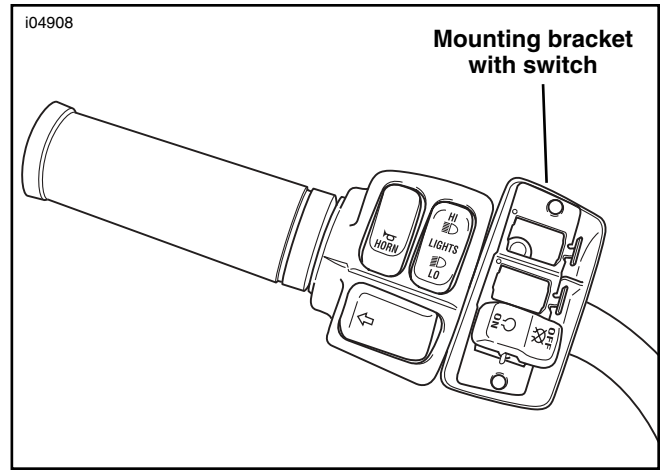
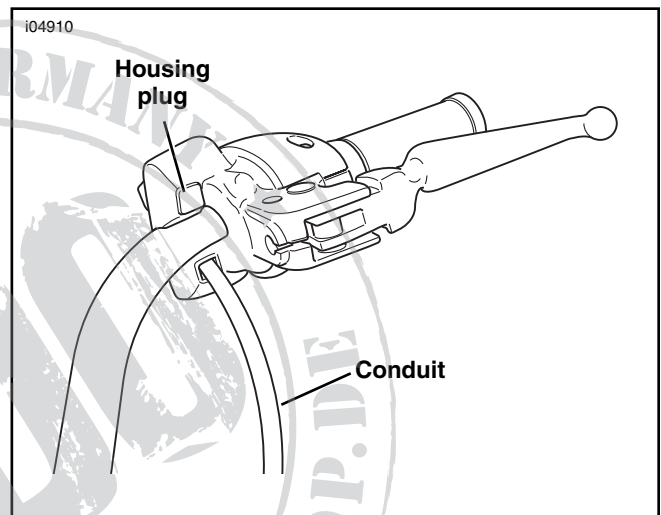

Figure 4. Install Mounting Bracket
Figure 5. Switch/Accessory Wire/Conduit Routing
9. See Figure 4. Install the switch bracket with switch(es) and/or accessories in the lower housing. Route the wires/conduit through the holes in the lower housing. (See Figure 5.)
10. See Figure 5. Install the housing plug (supplied with Auxiliary Accessory Housing Kit) in the upper hole if it is not being used.